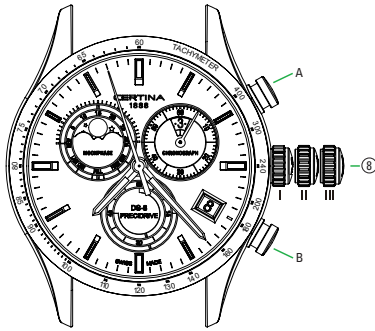

Fig. 1
- Time readout (Fig. 1)**
- Time 1 readout (as per Fig. 1)**